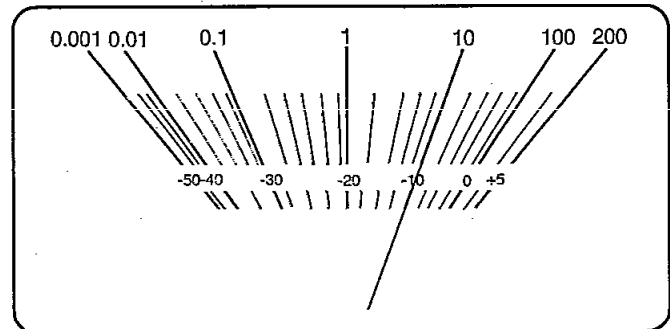

Fig. 4
5. Adjust **VR909 (L-ch)** and **VR910 (R-ch)** so that the power meter indicates **10 W** (shown in Fig. 4).